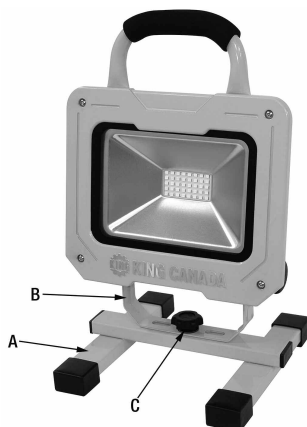

FIGURE 2
Place the base (A) Fig.2 on a flat surface. Position the U-Shape bracket (B) of the work light head onto the base (A) as shown in Fig.2. Use the lock knob (C) to secure the work light head on the base.